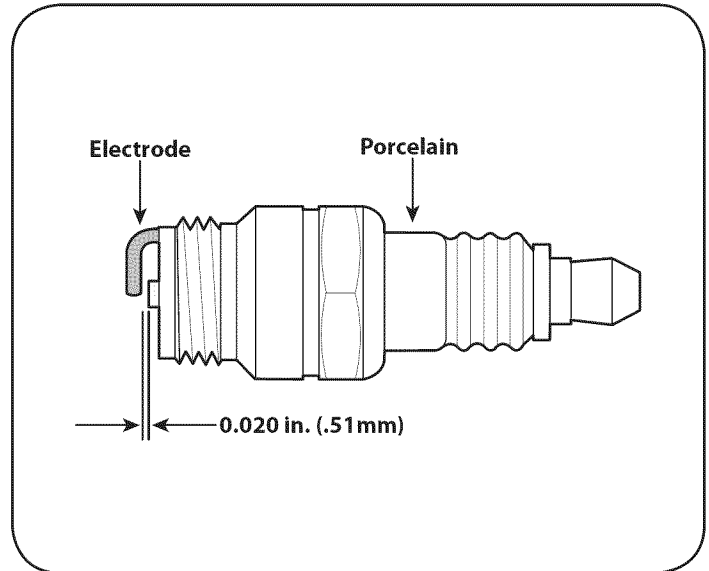

Figure 17
3. Check the gap with a wire gauge. See Figure 17. Spark plug gap should be 0.020 in (0.51 mm). If necessary, reset the gap.